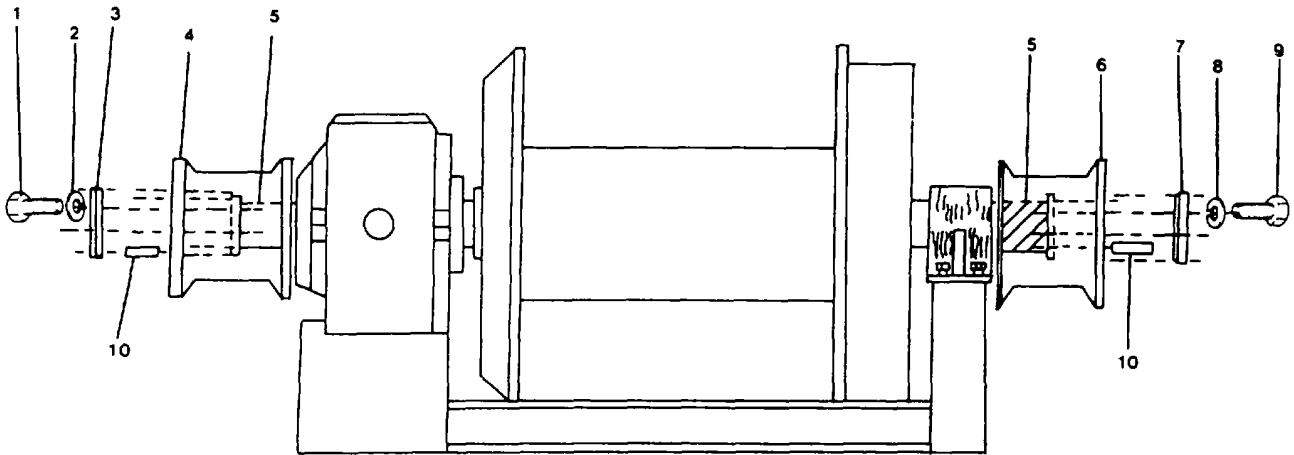

FIGURE 4-13. Gypsy Cathead Winch Assembly.
o. Gypsy Cathead Winch. (FIGURE 4-13)